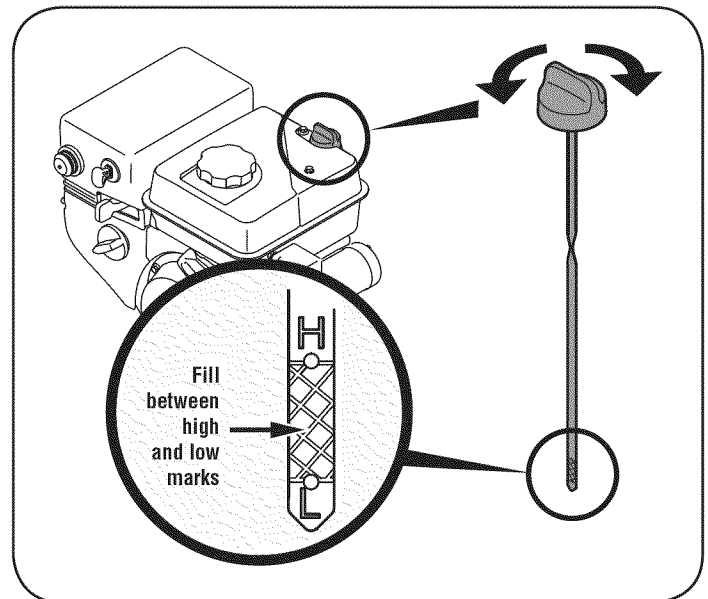

Figure 14
3. Remove the oil filler cap/dipstick. If level is low, slowly add oil until oil level registers between high (H) and low (L). See Figure 14.